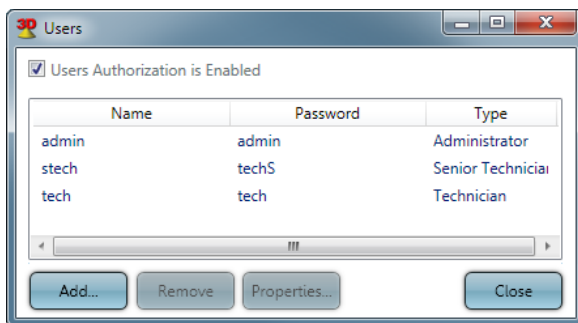

Figure 39: Users Management dialog box
- **Users Management...:** Opens the Users dialog box displaying a list of all the user accounts defined on the server and their permission levels (*Figure 39*). For further details regarding user levels and authorizations, refer to *Users Management on page 63*. This option is available to users with Administrators privileges.